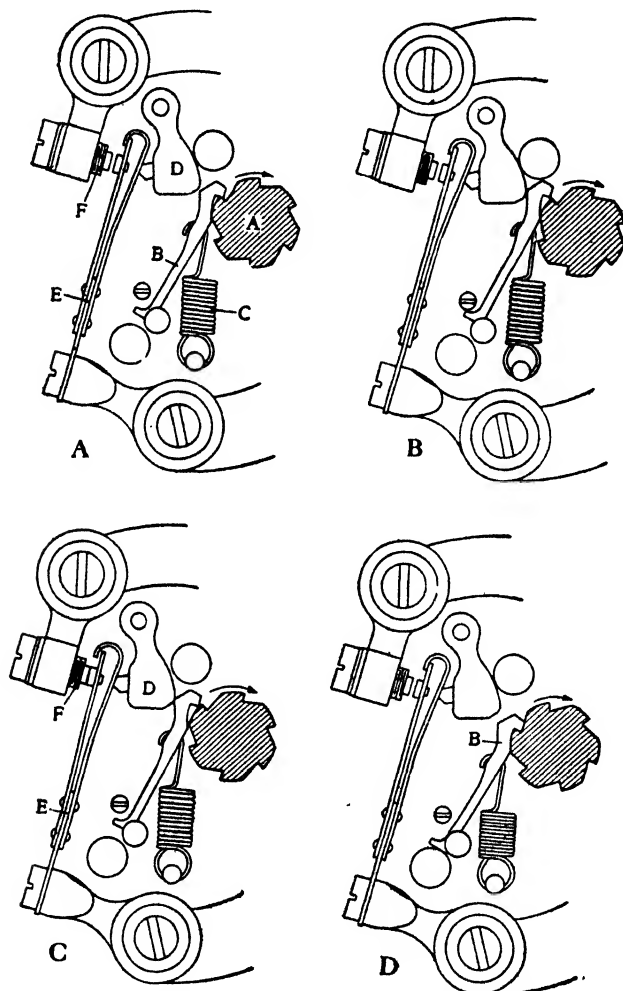

Fig. 120. Diagram Showing Operation of Atwater-Kent Interrupter
*Operation of "Unisparker".* The ratchet *A*, Fig. 120, has as many notches as there are cylinders to be fired. It is mounted on the central vertical shaft of the device which also carries a distributor, and in this combined form is known as a "Unisparker". On four-cycle engines it is driven at half crankshaft speed, and at crankshaft speed on two-cycle engines (motor boats). The ratchet *A* engages the lifter *B*, and, as *A* rotates, its teeth or notches successively tend to draw *B* with them, against the tension of the spring *C*. In doing
operation of the contacts as in the case of a magneto interrupter. *B*, *C*, and *D*, of Fig. 120, show the successive movements of the parts during a single phase. In *A*, a notch of the ratchet has engaged *B* and is drawing it against the tension of the spring *C*. In the second sketch *B*, the hook is released. In *C*, the lifter is riding back over the rounded portion of the ratchet and striking the hammer *D*, which in turn pushes *E* for a brief instant against *F*. The return of *B* to the position shown in sketch *D* is so rapid that the eye cannot follow the movement of the parts *D* and *E*, which to all appearances remain stationary.